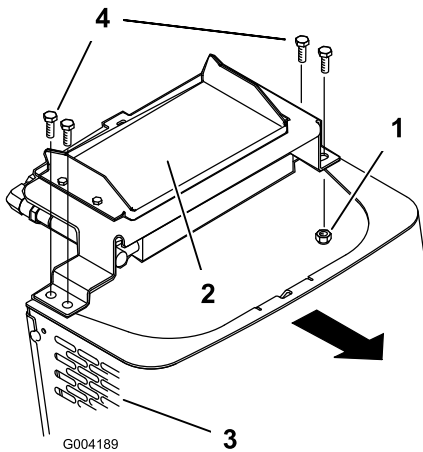

Figure 22
6. Remove the shoulder bolts and nuts securing the oil cooler to the top of the front screen (Figure 22).